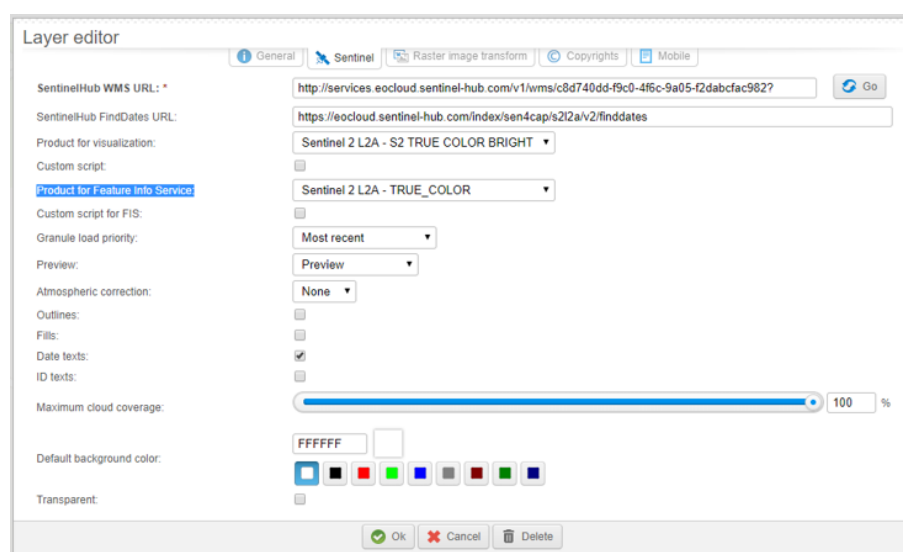

Figure 6-6. Settings for the S2 L2A True Color layer
- **S2 L2A - True Color** (Figure 6-6)